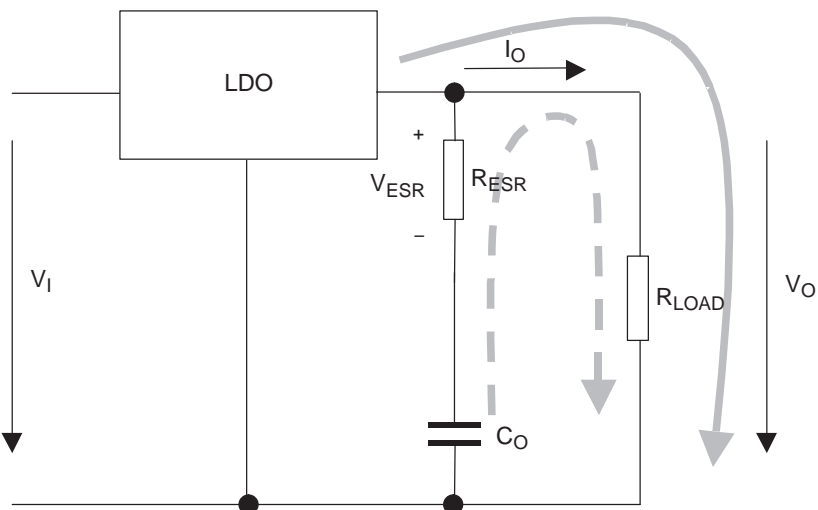
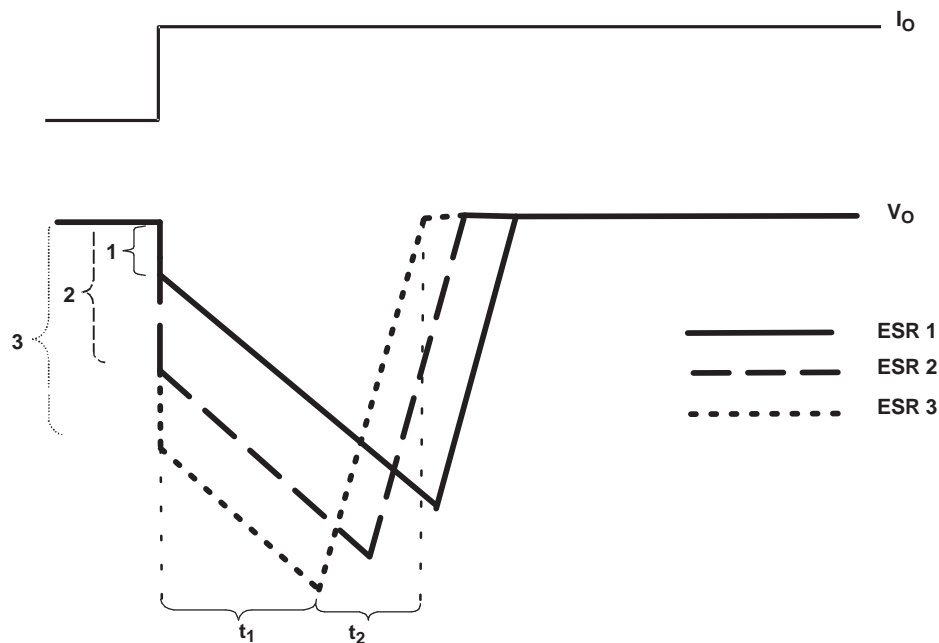

Figure 8. LDO Output Stage With Parasitic Resistances ESR and ESL
Figure 9. Correlation of Different ESRs and Their Influence to Regulation of V_O at a Load Step From Low-to-High Output Current
Figure 8 shows the output capacitor and its parasitic impedances in a typical LDO output stage.
- The LDO is not able to supply the sudden current need due to its response time (t_1 in Figure 9). Therefore, capacitor C_O provides the current for the new load condition (dashed arrow). C_O now acts like a battery with an internal resistance, ESR. Depending on the current demand at the output, a voltage drop occurs at R_{ESR} . This voltage is shown as V_{ESR} in Figure 8.
- When C_O is conducting current to the load, initial voltage at the load is $V_O = V(C_O) - V_{ESR}$. Due to the discharge of C_O , the output voltage V_O drops continuously until the response time t_1 of the LDO is reached and the LDO resumes supplying the load. From this point, the output voltage starts rising again until it reaches the regulated voltage. This period is shown as t_2 in Figure 9.
Figure 9 also shows the impact of different ESRs on the output voltage. The left brackets show different levels of ESRs, where number 1 displays the lowest and number 3 displays the highest ESR.